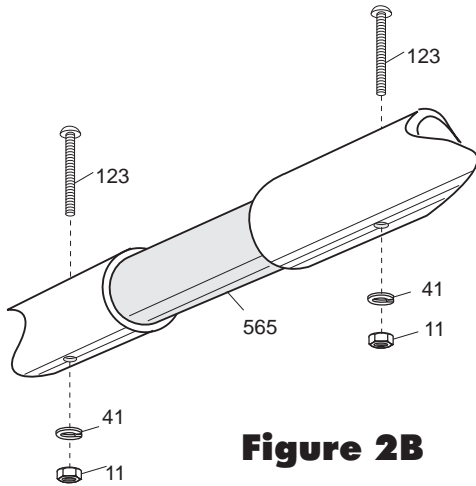

Figure 2B
Figures 2A and 2B show the steps required for element assembly. Slide EC sections over fiberglass insulator (565) until #8 screw holes line up (Figure 2B) . Insert screws (123) through holes and secure with lock washer (41) and nut (11). Pay close attention to all dimensions shown. Use Chart A to determine your final element lengths for the frequency you desire. (28-28.7 MHz or 28.7-29.7 MHz)